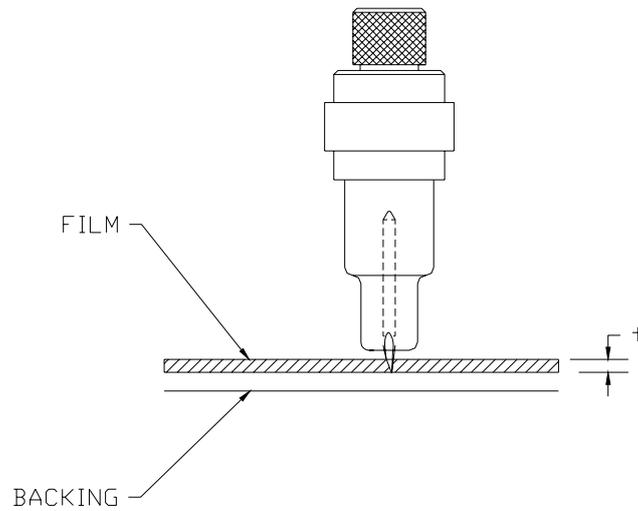

FIGURE 1-10
3. Extend the tip of the blade by the distance required for the desired cutting media ( $t$ ), as shown in Figure 1-10. The blade should only extend beyond the knife holder sufficiently far to cut completely through the film layer, yet avoid penetrating through the backing, which would risk cutting into and damaging the cutting strip.